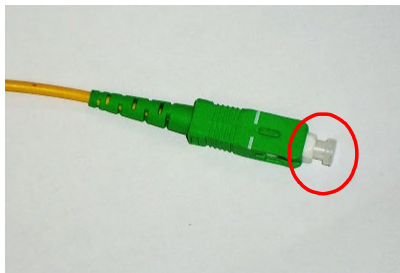

Figure 6-6 SC/APC Optic Connector Dust Cap
- When optic connector are not in use, the port should be covered with a protective dust cap. (Figure 6-6)